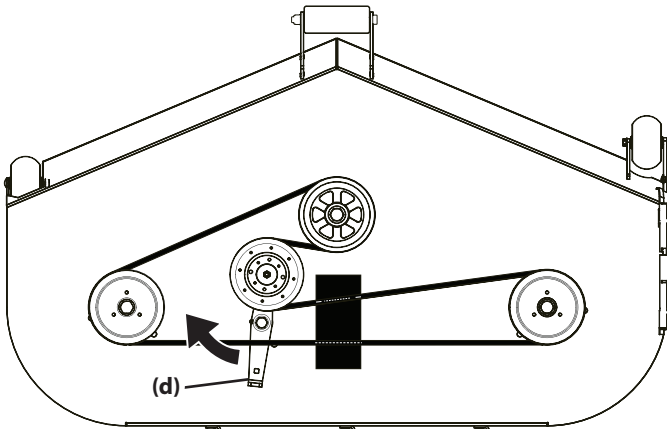

Figure 33
4. Using a 1/2" (12.7 mm) drive insert the end into the 1/2" (12.7 mm) square opening in the deck idler assembly (d) and rotate the deck idler assembly clockwise (Figure 33).
6. Route the new belt as shown in Figure 33. Then reinstall the deck and PTO belt as instructed on page 25.